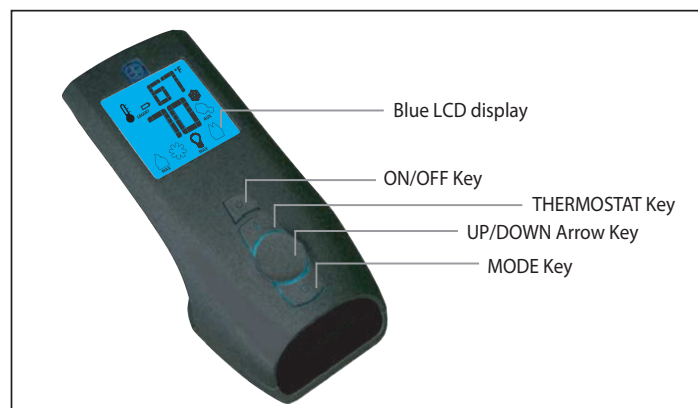
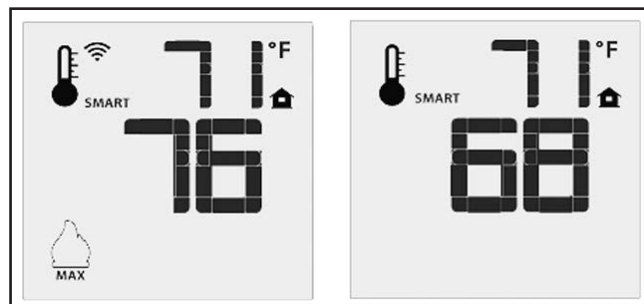
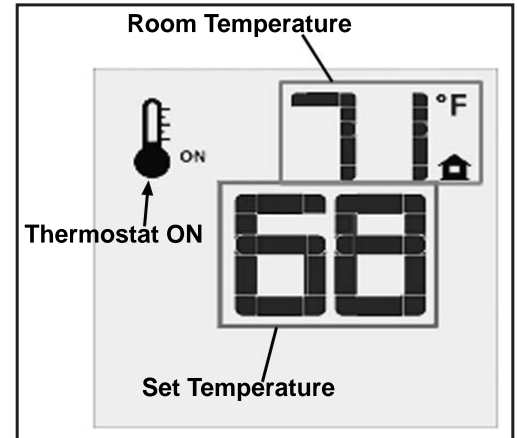
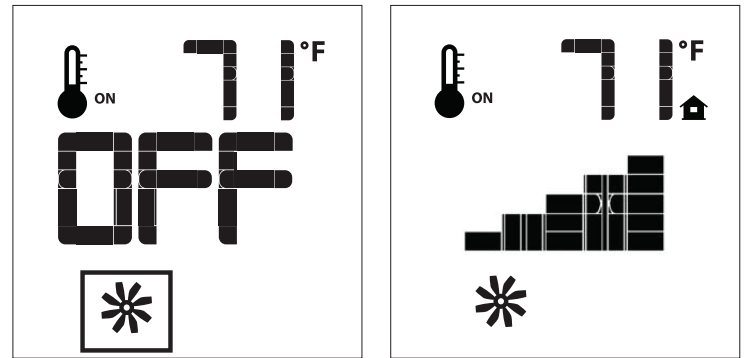

Figure 5: Proflame 2 Transmitter.
Figure 11: Remote Control's Smart Flame Function.
Figure 10: Remote Control Displays Set Temperature.
Figure 13: Fan Control
The Proflame 2 Transmitter is a black remote control with a blue backlit LCD display. It uses a streamline design with a simple button layout and informative LCD readout (Figure 6). The Transmitter is powered by three (3) AAA type batteries. A Mode Key is provided to Index between the features and a Thermostat Key is used to turn on/off or index through Thermostat functions (Figure 5 & 6)
Press the ON/OFF Key on the Transmitter. The Transmitter LCD display will only show the room temperature and Icon (see Figure 10). A single "beep" from the IFC confirms reception of the command and both the pilot light (if the unit is not set to continuous pilot) and main burner will turn off.
The Remote Control can operate as a room thermostat. The thermostat can be set to a desired temperature to control the comfort level in a room. To activate this function, press the Thermostat Key (see Figure 5). The LCD display on the Transmitter will change to show that the room thermostat is "ON" and the set temperature is now displayed (see Figure 10). To adjust the set temperature, press the Up or Down Arrow Keys until the desired set temperature is displayed on the LCD screen of the Transmitter.
The Smart Thermostat function adjusts the flame height in accordance to the difference between the set point temperature and the actual room temperatures. As the room temperature gets closer to the set point the Smart Function will modulate the flame down. To activate this function, press the Thermostat Key (Figure 5) until the word "SMART" appears to the right of the temperature bulb graphic (Figure 11). To adjust the set temperature, press the Up or Down Arrow Keys until the desired set temperature is displayed on the LCD screen of the Transmitter.
The Q3LI comes with a convection fan that can be controlled with the Transmitter. The fan speed can be adjusted through six (6) speeds. To control the fan press the MODE key (Figure 5) to index to the fan control icon (Figure 13). Use the UP/DOWN arrow keys to turn on, off, or adjust the fan speed (Figure 13). A single beep from the IFC will confirm the command has been received